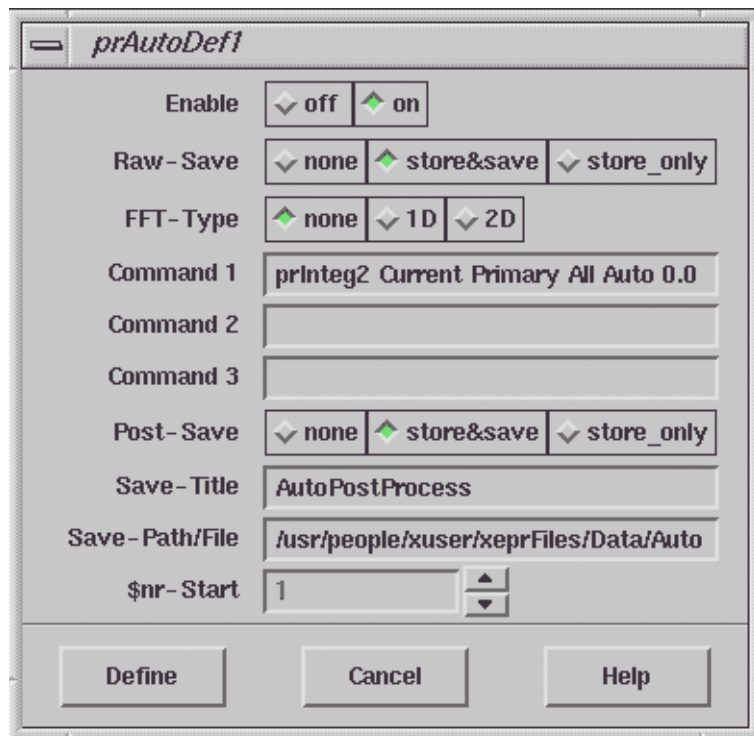

Figure 9-2 The auto post-processing definition dialog box.
2. **Define the auto post-processing commands and options.** (See Figure 9-2.)